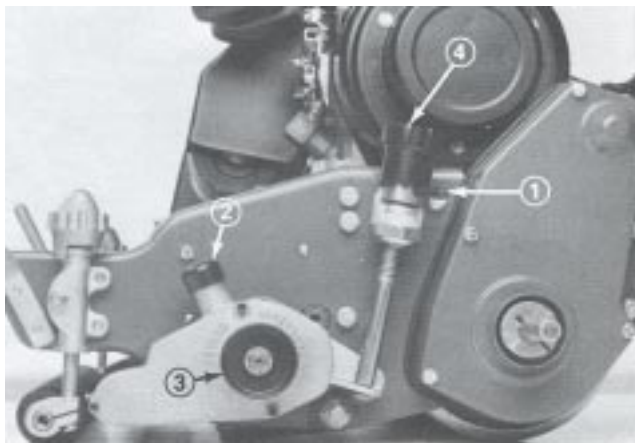

Figure 16
2. Hold the clutch snubber down and disengage the clutch by turning the clutch knob clockwise (Fig. 16). Use the quick up levers (both sides) to lower the grooming reel into the grooming position (Fig. 16).
4. Lift and turn micro adjustment knob (Fig. 16) to raise or lower blade tip. Each notch on the micro adjustment knob is approximately equal to .007 inch of groomer depth.